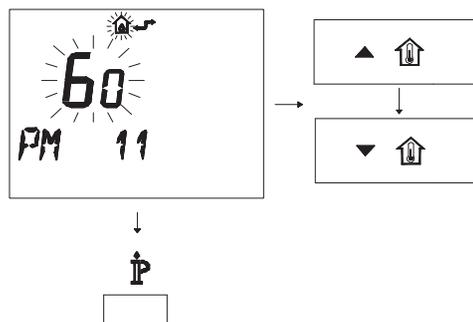

Fig. 7.35
- To modify the programmed SET, act on buttons ▲↑ or ▼↑ and wait for the programmed number to flash (Fig. 7.35). Each step increased or decreased corresponds to 1 second.